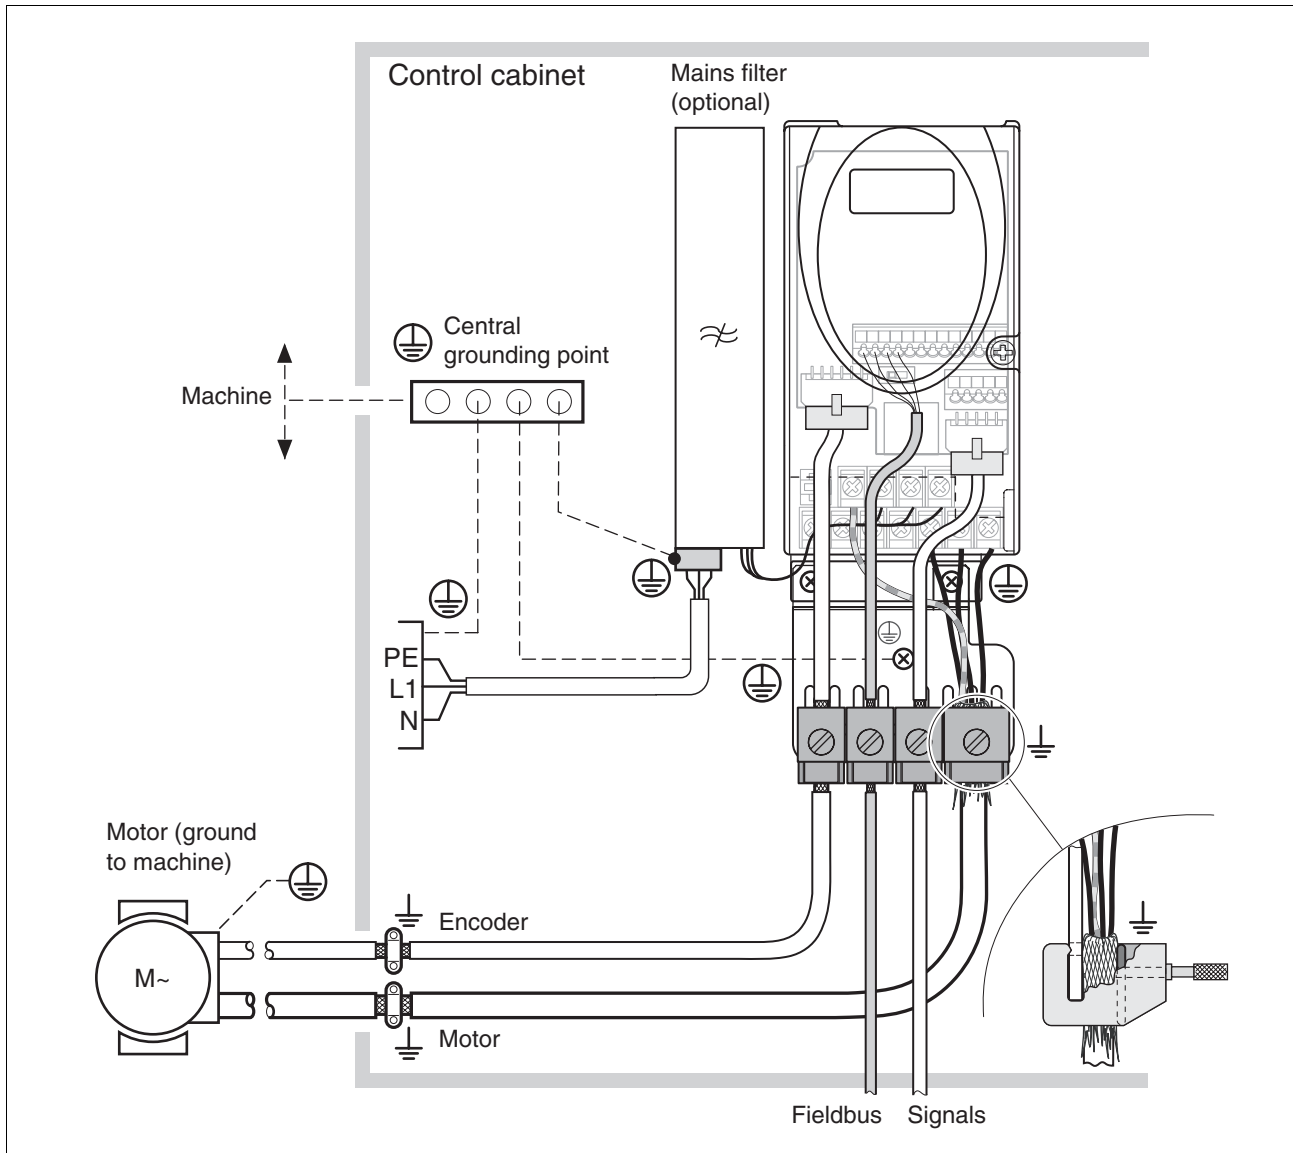

Figure 6.1 EMC measures¹
- ▶ Mount the EMC plate at the bottom of the device, see also Figure 6.1, or use alternative connection elements (busbars, shield clamps or similar).